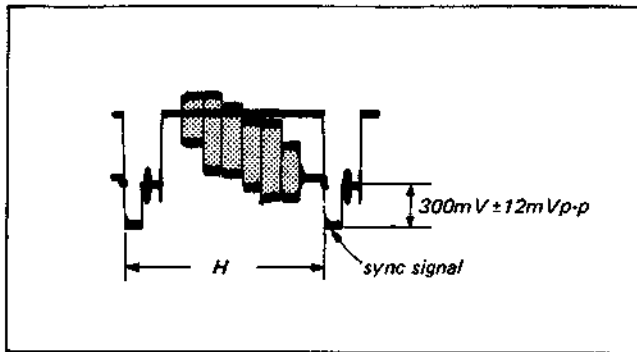

Fig. 4-4-11. Level adjustment of sync signal
- (3) Connect the oscilloscope to pin 24 of IC1.
- (4) Adjust RV1 for the sync signal level of $300\text{mV} \pm 12\text{mVp-p}$. (See Fig. 4-4-11.)